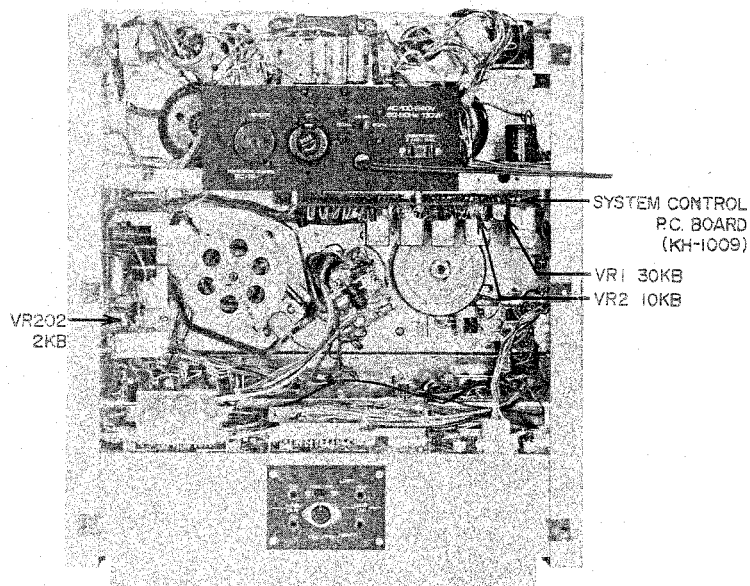

Fig. 9
- 4) When the 3-3/4 ips tape speed adjustment is completed, set the Tape Speed Selector to 7-1/2 ips and adjust Servo P.C. Board (KH-1011) semi-fixed resistor VR-202 (2k B) shown in Fig. 9 to obtain a Frequency Counter indication of 1,000 Hz  $\pm 1/-0.5\%$ .
### 2. DIRECT FUNCTION TIME CONSTANT ADJUSTMENT (See Fig. 9)